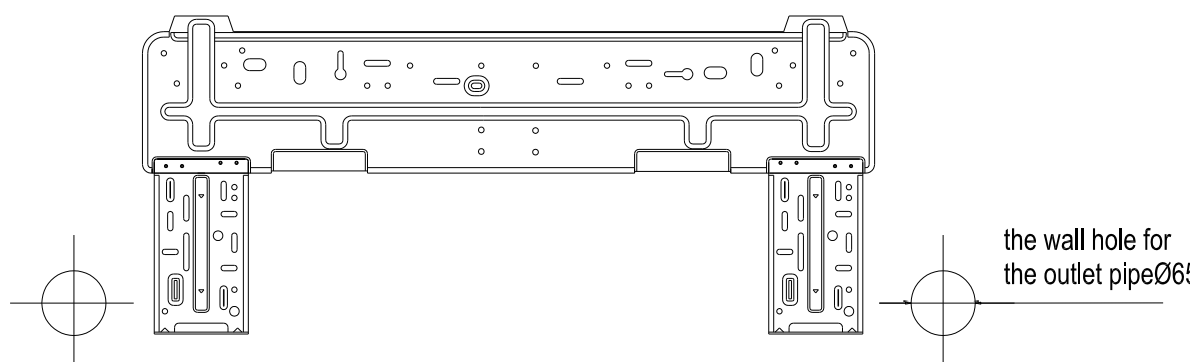

Fig.1
4. The diameter showed on the fig.1 is 65mm.
☆ Make the piping hole (Φ65mm) in the wall at a slight downward slant to the outdoor side. The center of the hole should be determined refer to Fig.1